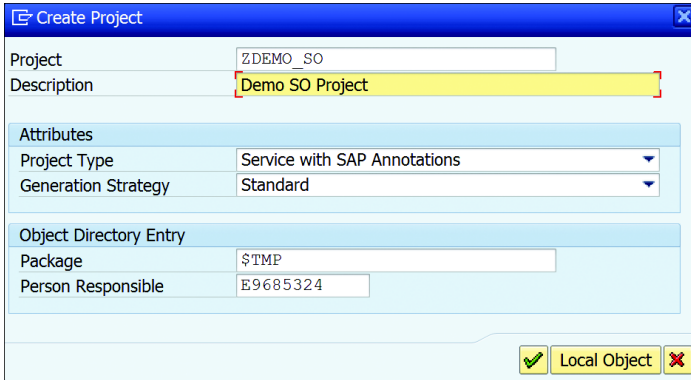

Figure 19.103 Create Project Window
2. In the CREATE PROJECT dialog box, provide a name for the PROJECT and a short DESCRIPTION, as shown in Figure 19.103.